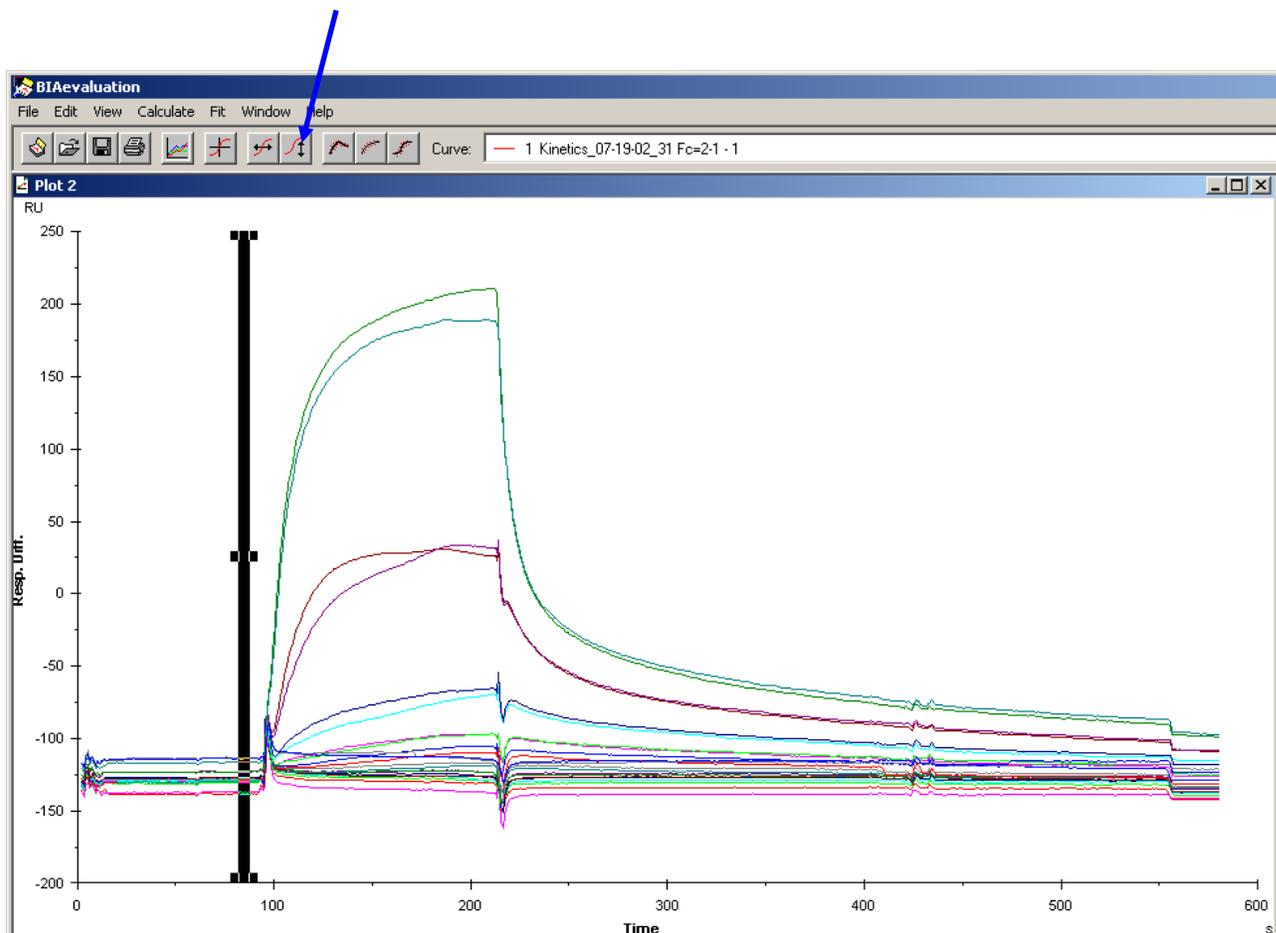

Figure 6.6
6.14 Hold down the right mouse key and draw a bar on the region of the sensorgrams as shown in Fig. 6.6 (The region that is selected is that just before the injection).